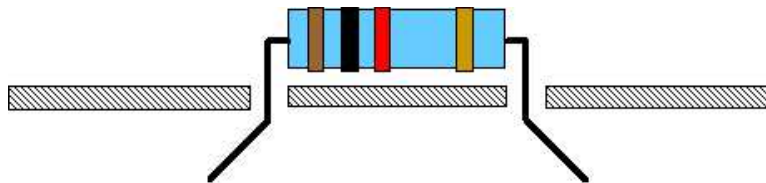

Figure 1.1: Clinched Component Leads
5. Insert the component into the holes. Ensure that the component is secure by taping the component or by using a third hand. Optionally, the component leads can be clinched as shown in Fig. 1.1. This technique, however, is not recommended for two-sided boards as the flow of solder to the component side is restricted.